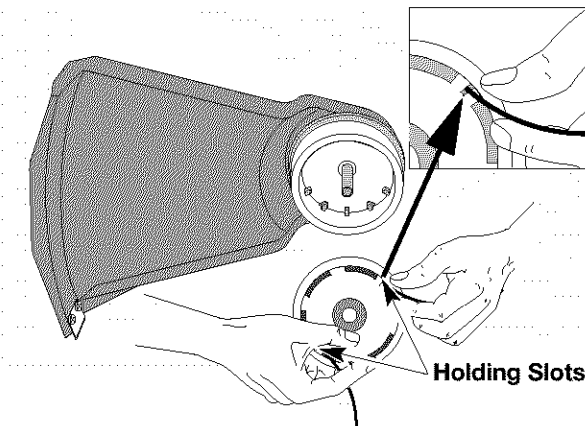

Fig. 16
8. Insert the ends of the line into the two holding slots and cut to the same length (Fig. 16).